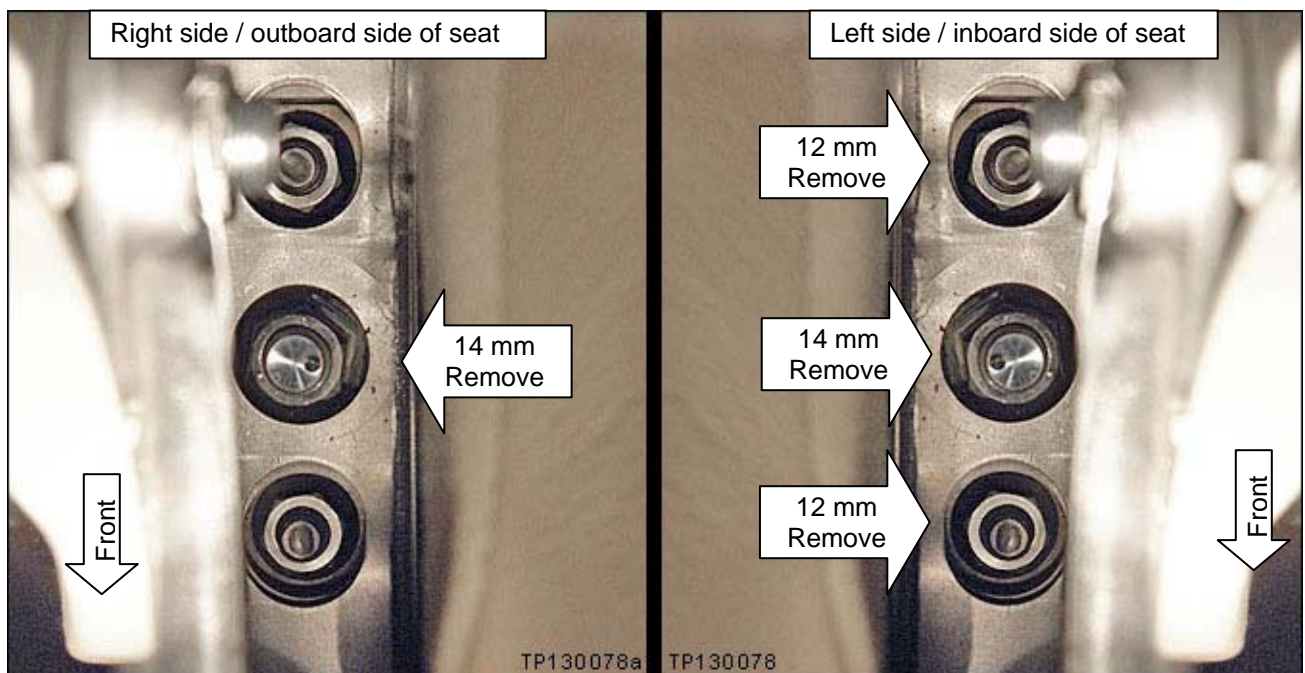

Figure 9
- Remove **only** the nuts indicated in Figure 9.